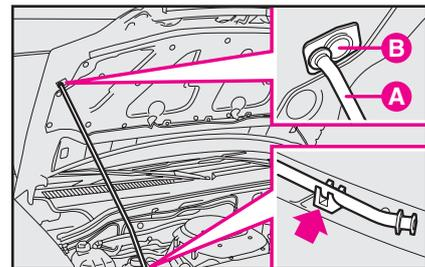

fig. 135
4) Open the bonnet and release the rod **A**-fig. 135 from its clip at the same time. Then **B** on the bonnet.
1) Hold the bonnet up with one hand and, with the other, remove rod **A**-**fig. 135** from recess **B** and replace it in its clip.